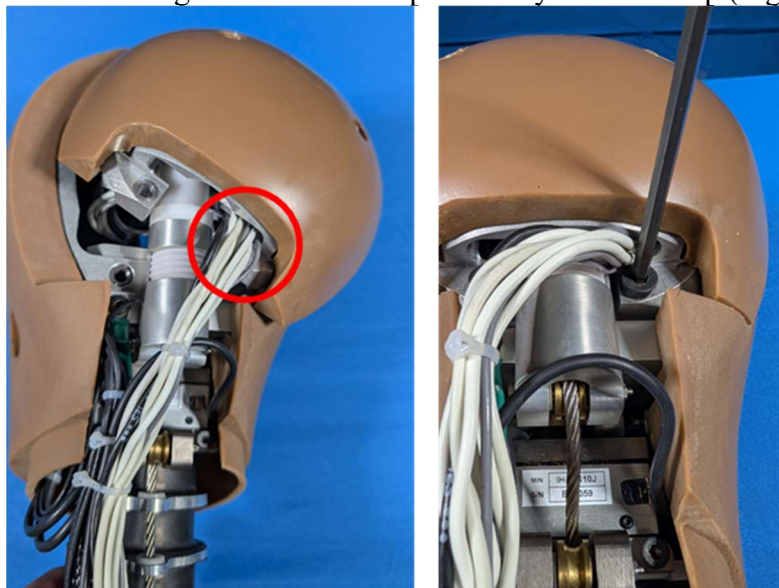

Figure 13-21. Skull cap installation with wire bundles
13.4.1.7 To install the skull cap, move any cable wiring towards the neck spring tower, away from the area where the skull cap screws into the skull; this will ensure that the cables exiting the head are not pinched by the skull cap (Figure 13-21).